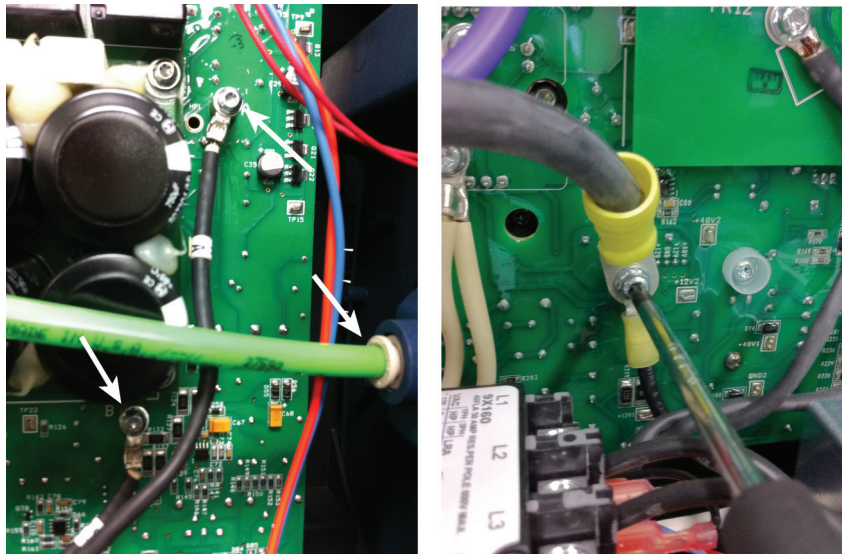

Figure 4: Air Hose, Transformer and Worklead Connections
3. Remove the screws holding transformer wires 'A' and 'B' to the Main PCB and the 'WORK1' connection with the T-20 Torx Screwdriver. See Figure 4.